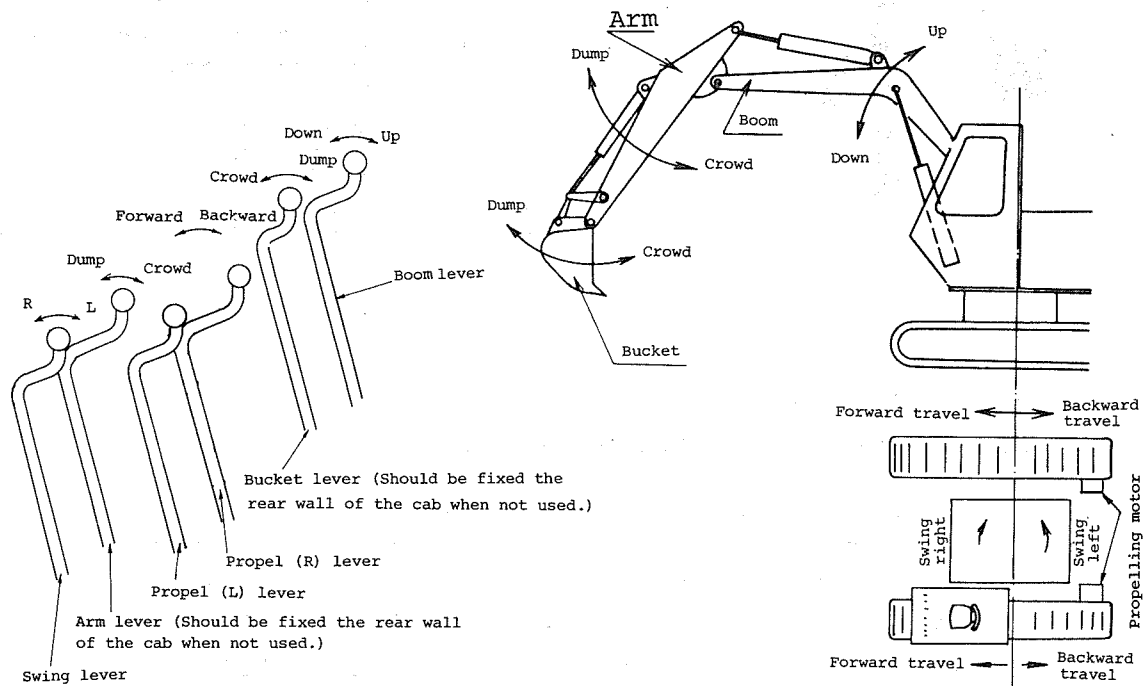

Fig. 3-4
- (3) All controls are arranged within easy reach of the operator. They are shown in Fig. 3-4. Go over the levers several times until you are familiar with their positions and names. After practicing enough to be sure of the levers, then start going through the motions.